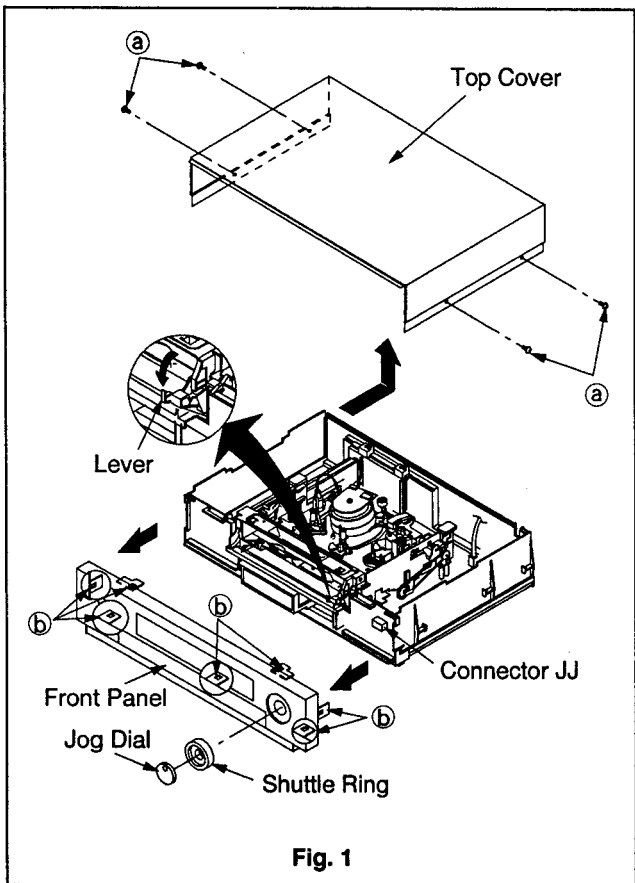

Fig. 1
1. Remove the four Top Cover fastening screws (a) shown in Fig. 1 and remove the Top Cover in the direction shown by the arrow.
3. Unfasten the seven catches (b) shown in Fig. 1 and remove the Front Panel in the direction shown by the arrows.
4. Disconnect the Connector JJ shown in Fig. 1.